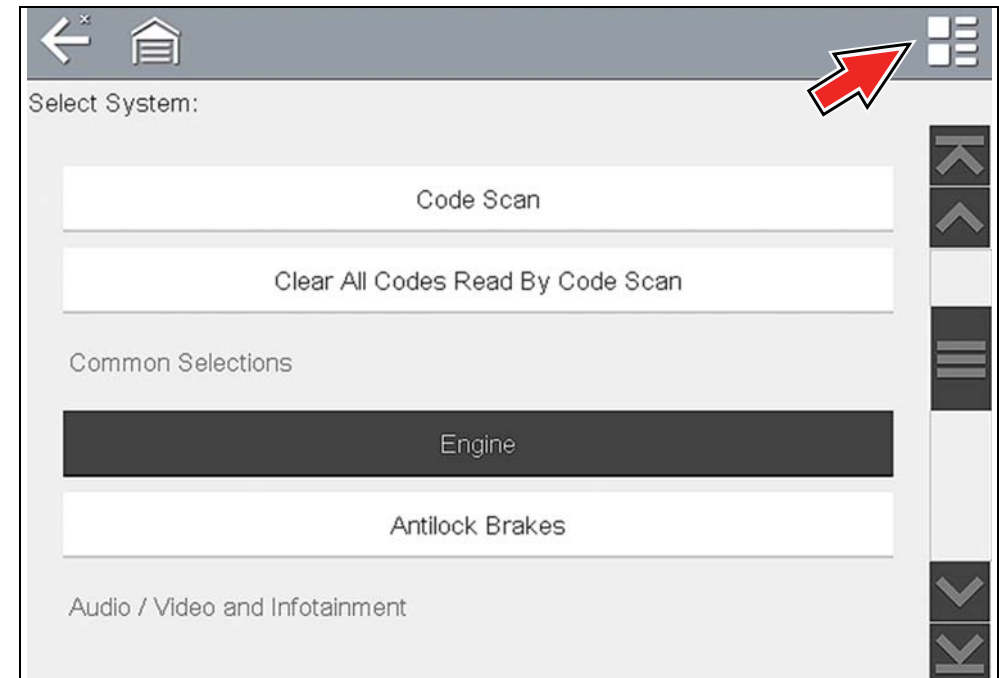
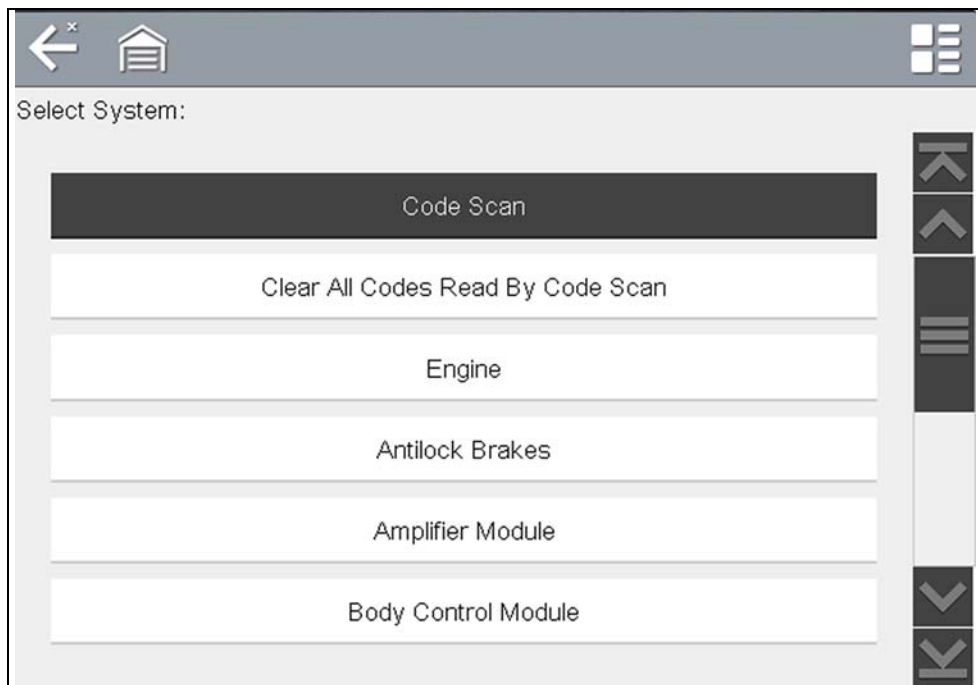

Figure 4-5 Typical systems menu (categorized list view)
Figure 4-6 Typical systems menu (non-categorized list view)
3. A menu of available systems and/or options is displayed. Select a system or option (Figure 4-5) to continue.
Depending on your preference, select the icon (arrow in Figure 4-5) to toggle the display between a categorized (Figure 4-5) and non-categorized (Figure 4-6) list.